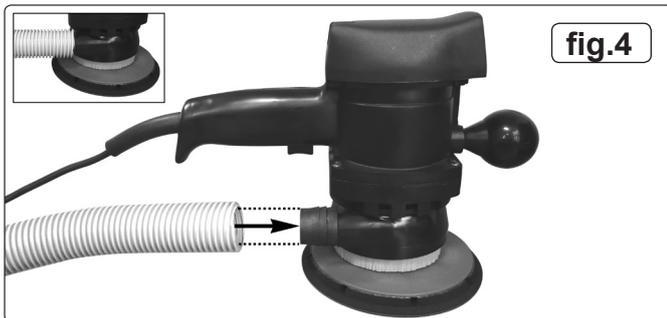

fig.4
- 4.2.3. Connect the other end of the suction hose to the electric tool as shown above in fig.4. If necessary, tie or tape the redundant air line to the suction hose to keep it out of the way.